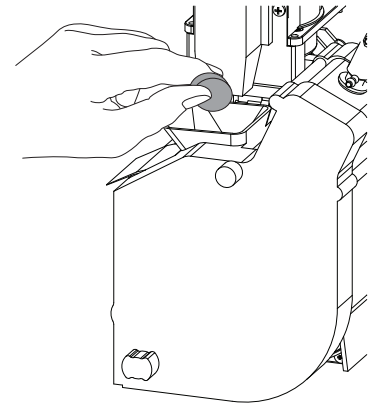

Figure 4-8
11. Place the cleaning agent in the brewing unit, (see figure 4-8).